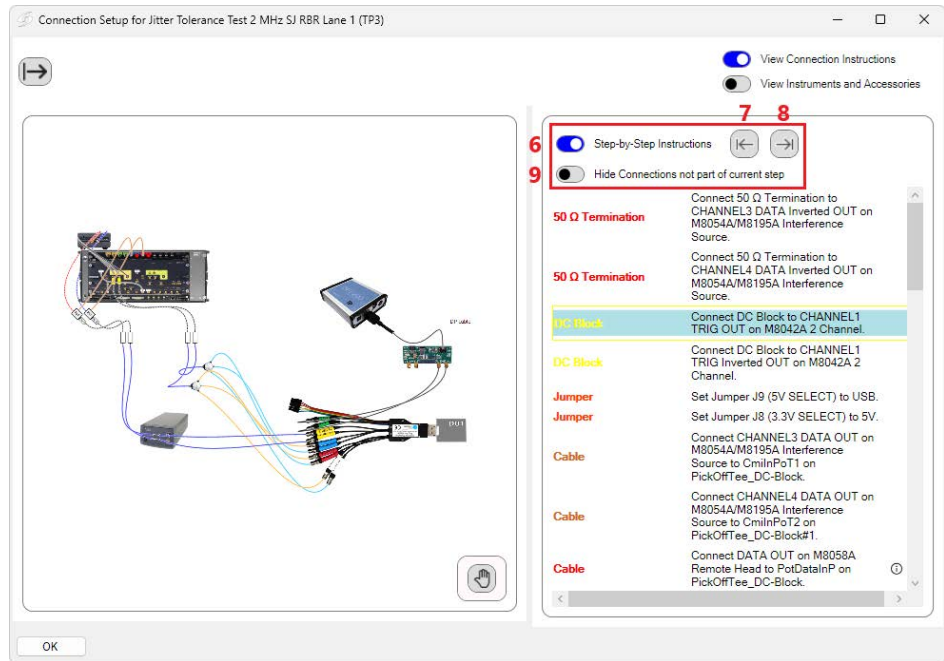

Figure 5-15 Example connection diagram dialog – with Connection Instructions pane
- 2 Connection Instructions:** Toggle to ‘on’ to view the connection instructions and further information (Figure 5-15).
Toggling “Step-by-Step Instructions” within the Connection Instructions pane leads to a view such as in Figure 5-15.